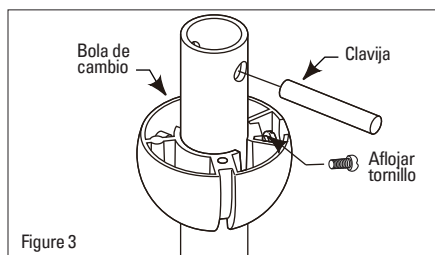

Figure 3
3. Loosen the set screws in the Hanger Ball assembly until the ball slides carefully down the downrod. Remove the Pin from the downrod (Figure 3)